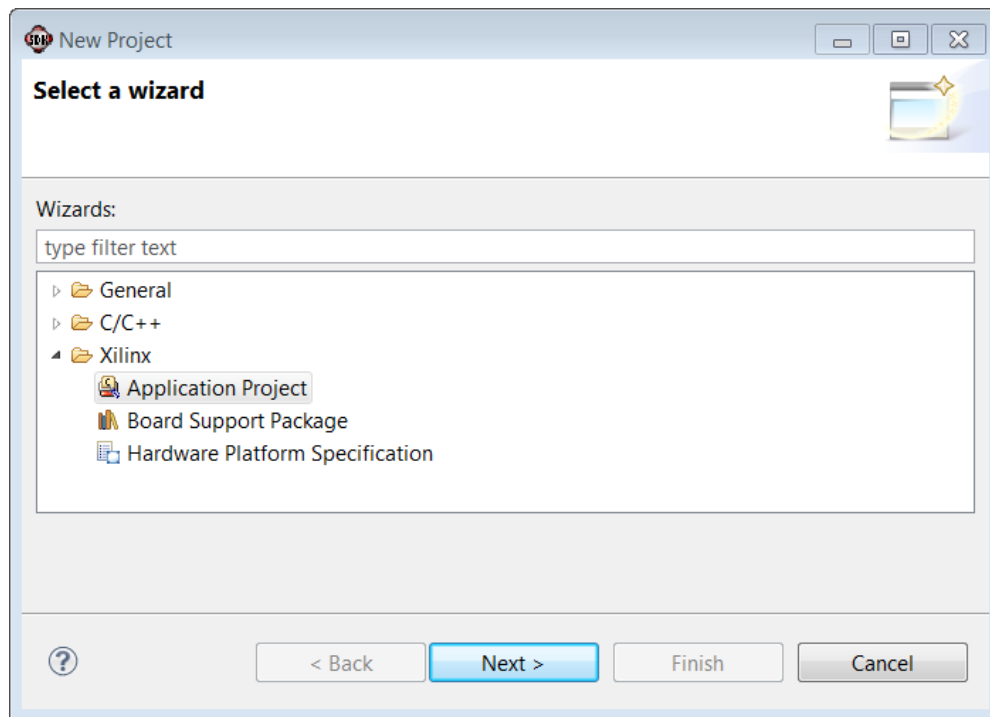

Figure 137: SDK New Project Wizard
2. In the dialog box that opens, select **Xilinx Tools > Application Project** (Figure 137).